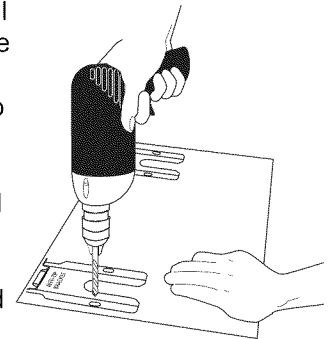

Fig. 6
- b. **Drill pilot holes & fasten bracket** - Drill 1/8" pilot hole where screws are to be located (Fig. 6). If bracket is to be mounted to the wall, drill pilot hole at an approximate 20° downward angle. If bracket is to be mounted to masonry or ceramic floors, drill 3/16" pilot hole 1-3/4" deep. The screws provided may be used in wood or concrete material. Use 5/16" nut-driver or flat head screwdriver to secure the bracket in place.